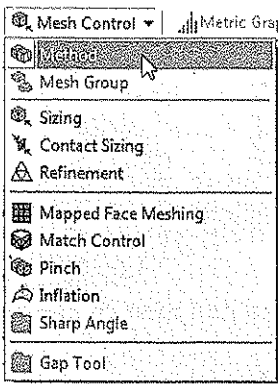
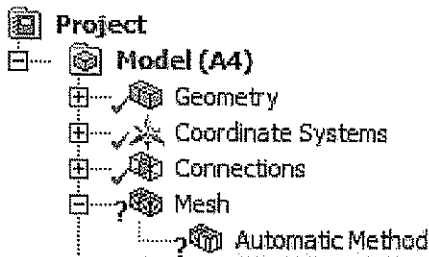

Figure 8-24 Choosing the **Method** option from the **Mesh Control** drop-down
Figure 8-25 The **Automatic Method** node under the **Mesh** node
18. Choose the **Method** tool from the **Mesh Control** drop-down in the **Mesh** contextual toolbar, as shown in Figure 8-24; **Automatic Method** is attached with a question symbol, under **Mesh** in the Tree Outline, as shown in Figure 8-25. Also, the **Details of Automatic “Mesh”** window is displayed.